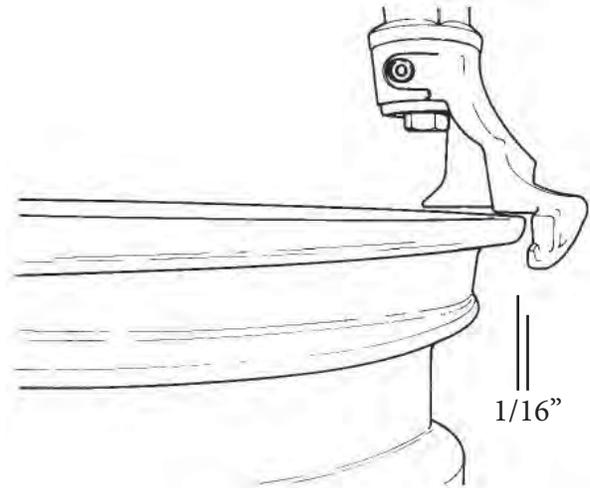

Fig. 4.1-4
E. Gently position the mount/demount head in contact with the rim edge and lock it into place: the tool automatically moves away from the rim edge vertically and horizontally, approximately 1/16" (2mm): this is necessary to avoid any rim contact during the changing process. (Fig. 4.1-4).